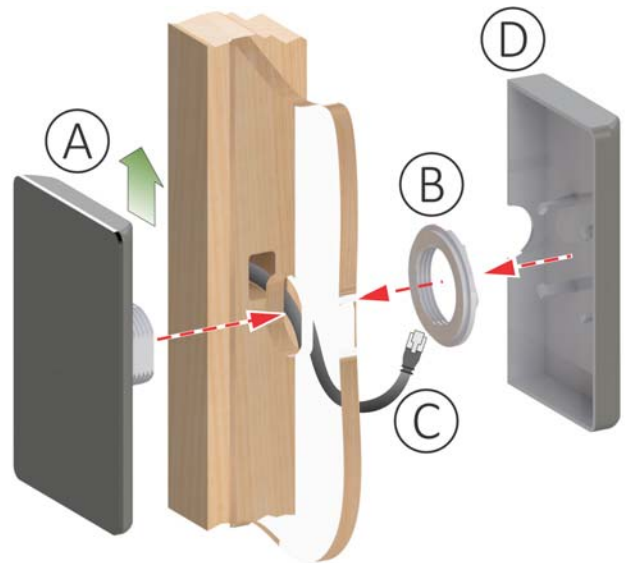

Figure 27. Installing the Control
1. Locate the keyed circular hole in the front glass for mounting the control. The control will mount on the exterior of the glass. See Figure 27. for the remaining steps.
2. Orient the UP arrow on the back of the control (A) and insert the threaded tube through the keyed circular hole in the glass.
3. Attach the control to the glass from the interior using the threaded retaining ring (B).
4. Connect the RJ11 control cable (C) to the female RJ11 jack located inside the threaded tube of the control.
5. Neaten up the control cable, then attach the back cover (D) over the threaded retaining ring (B).